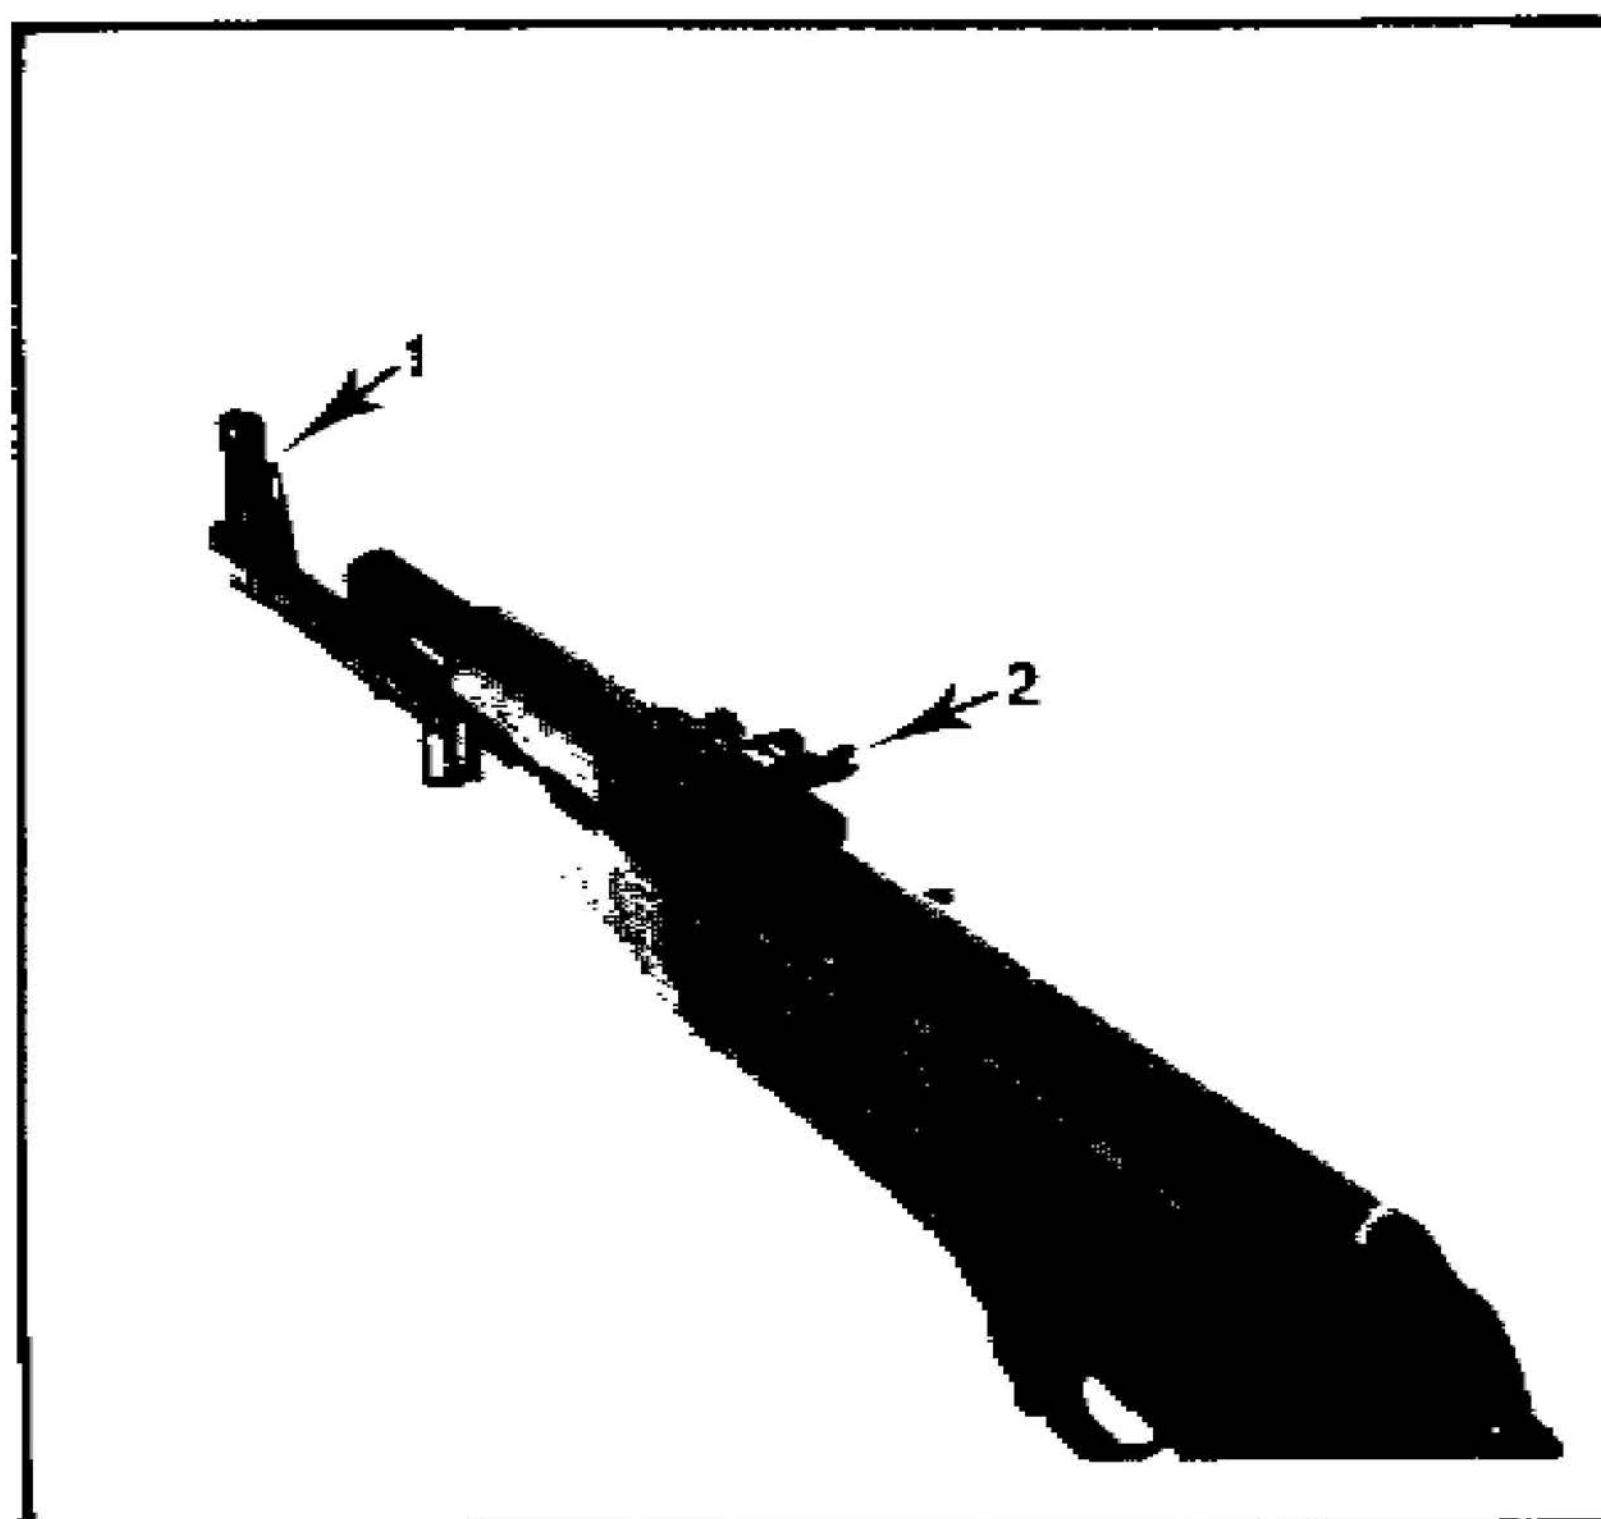
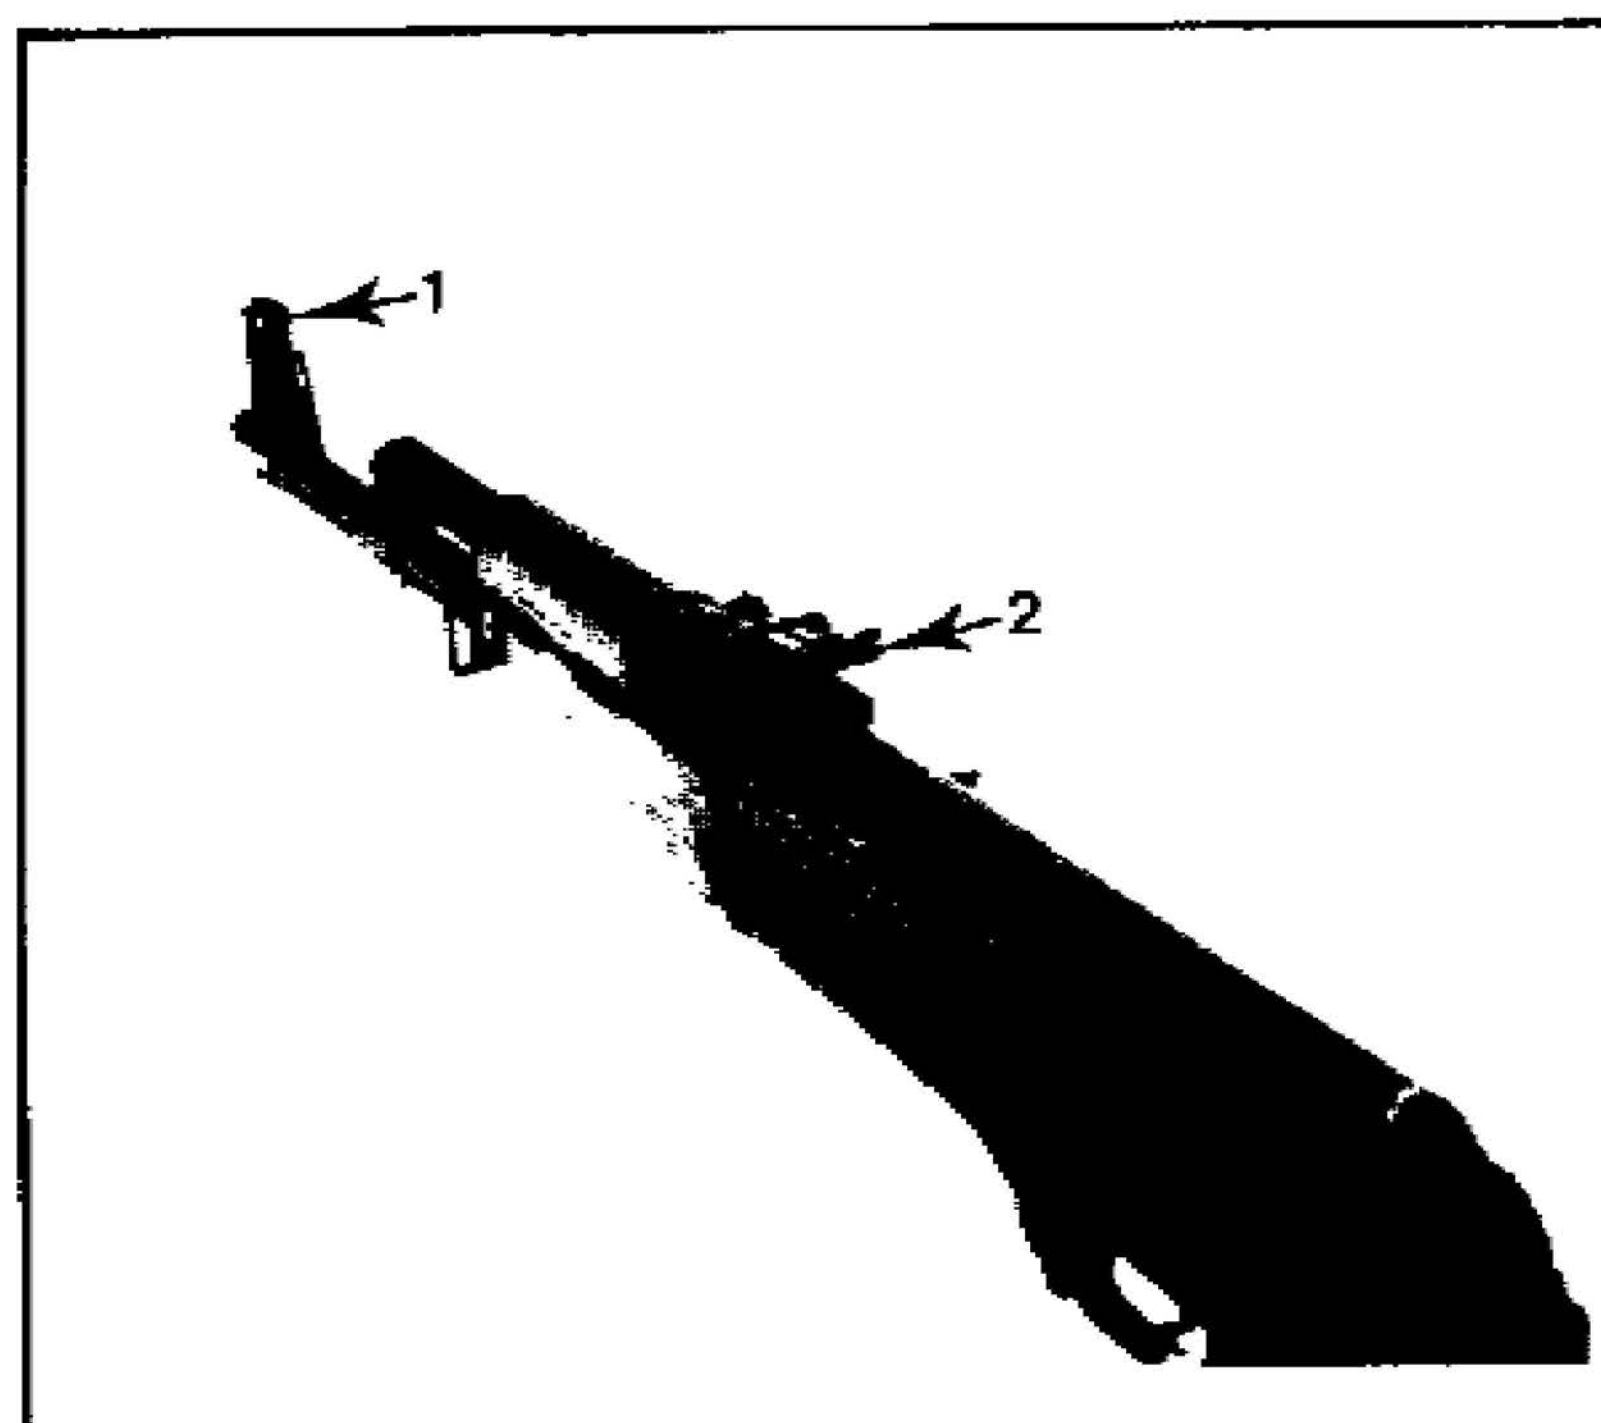

FIGURE 49. NIGHT SIGHTING DEVICE
FIGURE 50. LUMINOUS DOTS
**Night Sighting Device:** The night sighting device (fig 49) is attached by snapping it over the sight. It can be moved out of the way in order to use conventional sights in the daytime. To use this device, align the luminous dots (fig 50) over each other and on the target, aim and fire.